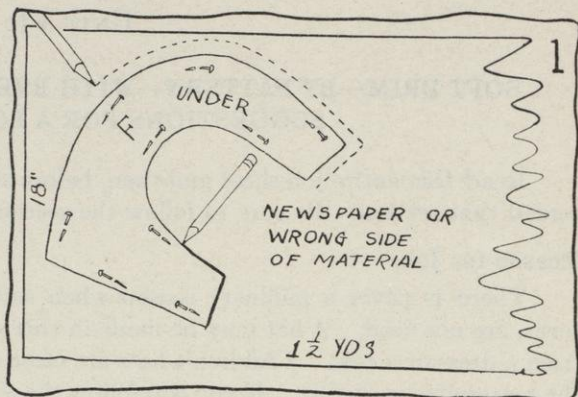

FIG. 1.
- d. Decide how much material is needed. If you have no material from which to make your hat and if you want to find out how much to buy, follow Sections (1) through (12).
- (1) Get a piece of newspaper the width of the kind of material you are going to buy; for instance, if you are going to buy velvet, your piece of paper should be 18 inches wide, as velvet is usually that width. The piece of paper should be about $1\frac{1}{2}$ yards long. Pin the newspaper together, if necessary, to get the desired width and length. Pretend that the part of the newspaper that faces you is the wrong side of the material.
- (2) Lay the top side of the pattern against the piece of paper for the top facing, so that the front of the pattern is near one corner of the paper, but be sure that the edge of the pattern is $\frac{1}{2}$ inch from the edge of the paper (see Figure 1), for the pattern has no seam allowance. When planning to buy material, be sure to allow for seams. In planning a top facing from the wrong side of the material, you must always see the part of the pattern marked *under*.
- (3) Pin the pattern to the piece of paper (see Figure 1).
(4) Trace the outline of the pattern on the paper (see Figure 1).
(5) Put a dotted line $\frac{1}{2}$ inch outside your pencil line on all edges (see Figure 1). This $\frac{1}{2}$ inch allows for seams. This is the plan for the amount of material that you need for the top facing.